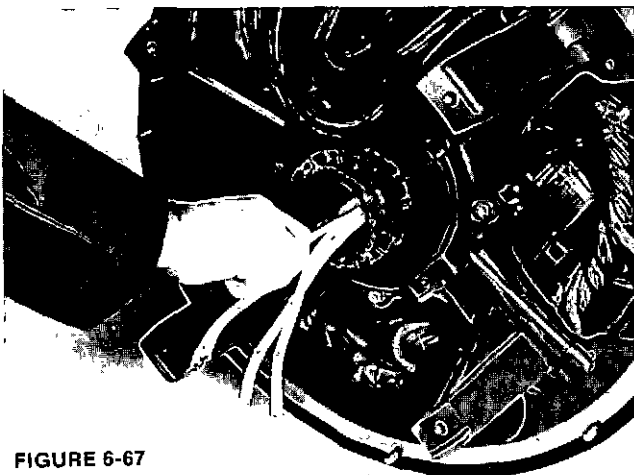
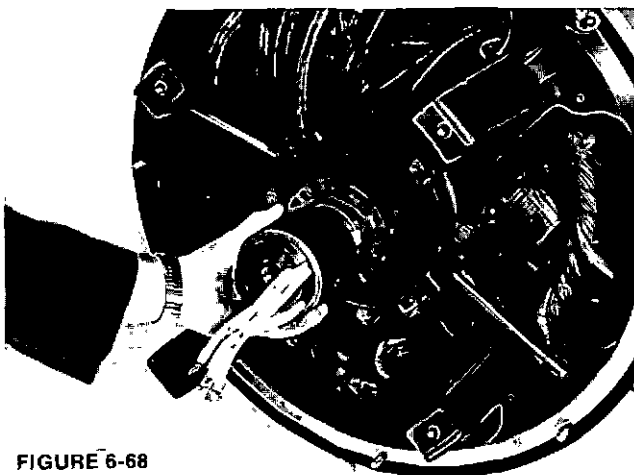

FIGURE 6-67
FIGURE 6-68
- Install snap ring. (Figure 6-67.) Use a piece of pipe slightly larger than the shaft (2-3/4 inches) to push the rotor back against the loading spring until the snap ring seats in the slot. (Figure 6-68.)